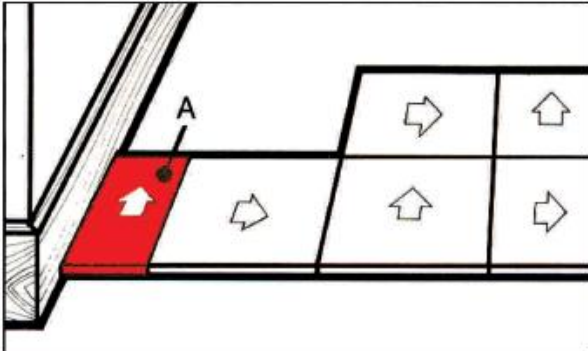

Fig 9
2.12 Using the edge of the tile "B", mark or score a line on tile **(A)**. Cut tile **(A)** along the mark and install it as the border tile. **Refer to Fig 9.**